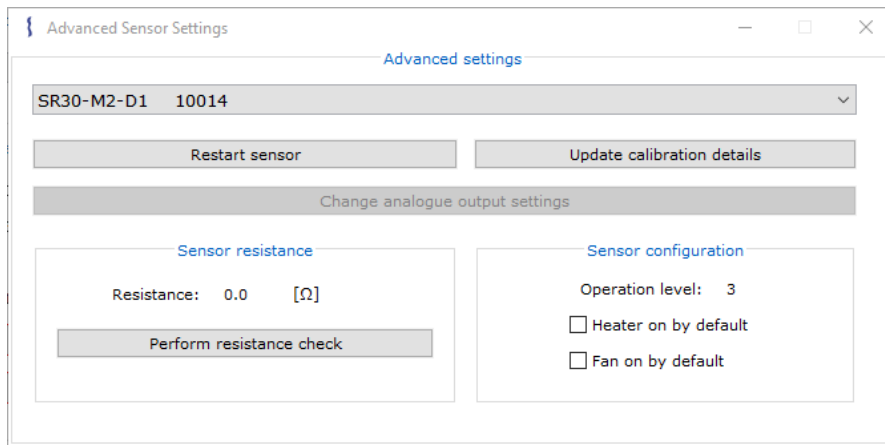

Figure 4.3.2.1 *Advanced Sensor Settings window for an SR30-M2-D1*
- 1) Click the "Advanced" drop-down menu in the top menu bar. In the drop-down list, "Advanced sensor settings" should be selected, which will open the "Advanced Sensor Settings" window (see Figure 4.3.2.1).